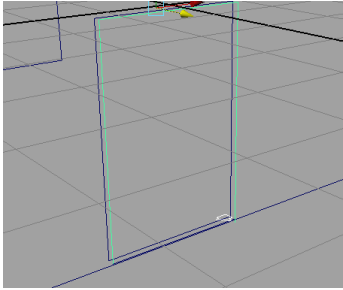

**Figure 3-115** Choosing **Edit Point** from the marking menu
5. Make sure the duplicate curve is selected in the persp viewport. Press and hold the right mouse button over it; a marking menu is displayed. Next, choose **Edit Point** from the marking menu, as shown in Figure 3-115; the edit points of the duplicate door curve are displayed.